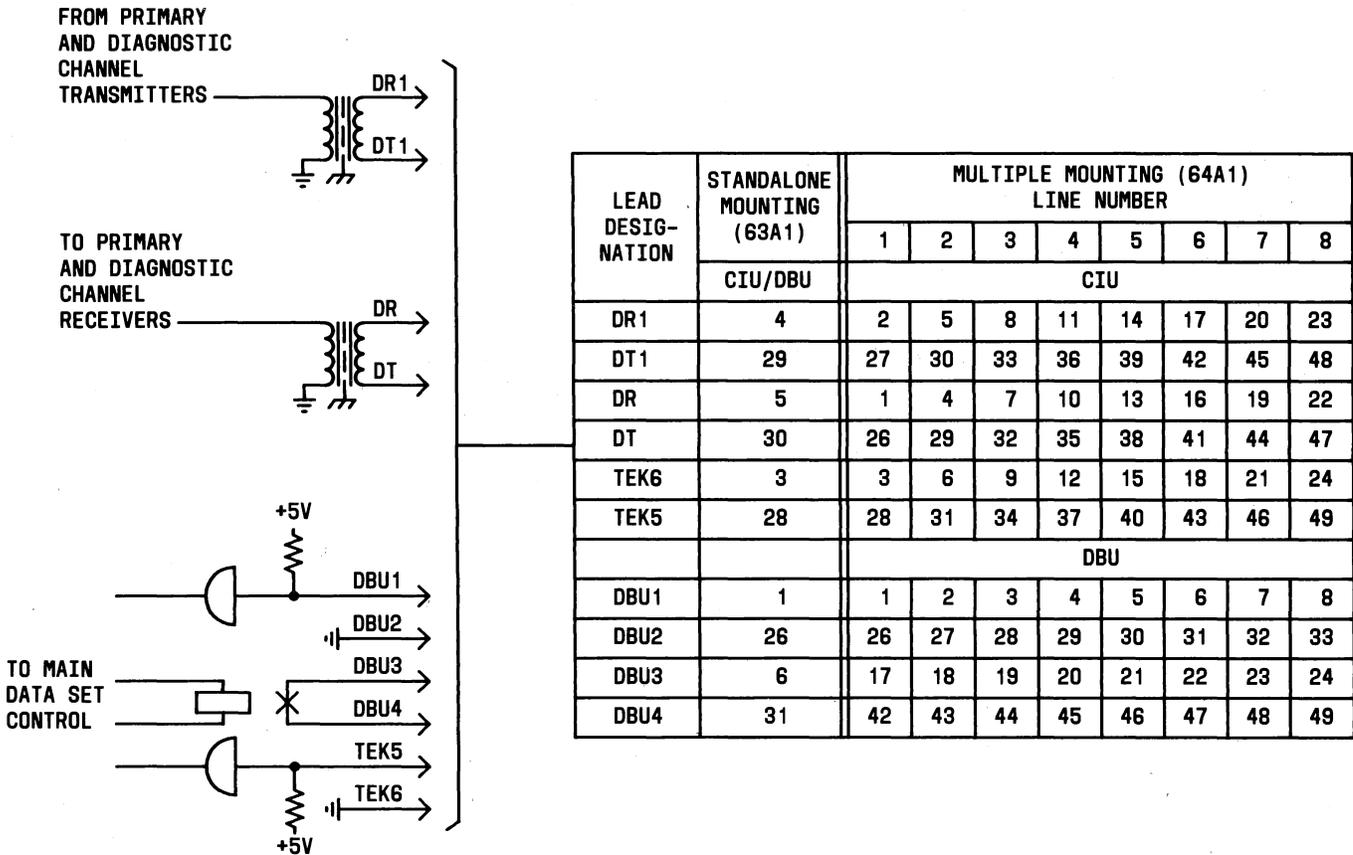

Fig. 14—Line Facility Circuits
**3.38** The line facility interface is accessible through the 50-pin female connector at the rear of the data set labeled CIU/DBU. The connector pin numbers and the corresponding lead designations are shown in Table G. Figure 14 shows the line facility circuits. A description of these leads is contained in the following paragraphs.
**3.42** The line facility interface is accessible through the two 50-pin female connectors at the rear of the multiple mounting labeled CIU and DBU (Fig. 5). The connector pin numbers, corresponding lead designations and data set position served are shown in Tables H and I for the CIU and DBU connectors respectively. Figure 14 shows the line